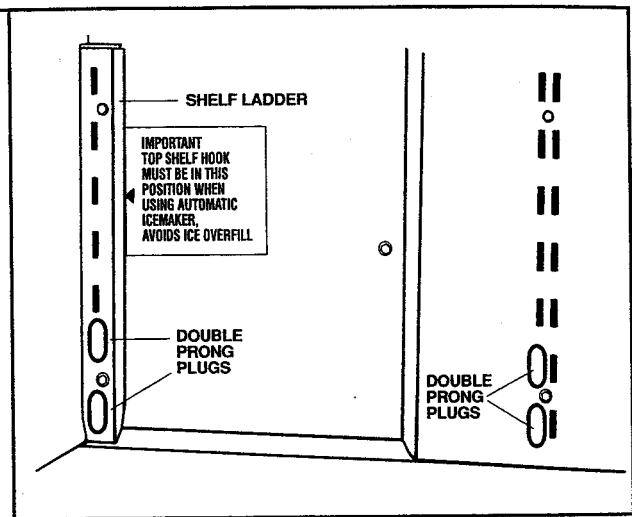

Figure 6
a. On refrigerators with adjustable freezer shelves, push four (4) double-prong plugs into the two lowest shelf slots, two at left side ladder and two at center ladder. See Figure 6.